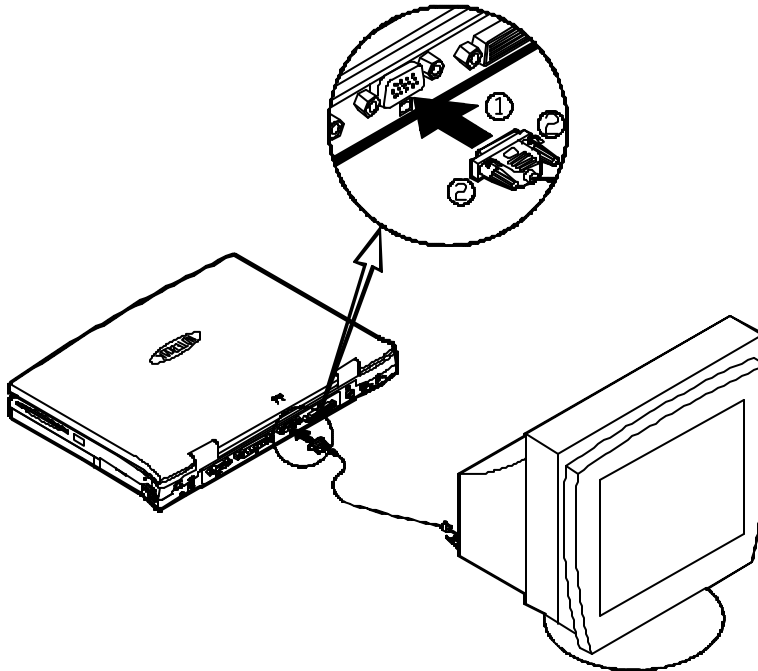

Figure 2-23
2. Connect the cable to the CRT port on the rear of the Notebook Computer (Step 1 in Figure 2-23).
3. Tighten the screws that fasten the cable to the CRT port (Step 2 in Figure 2-23).